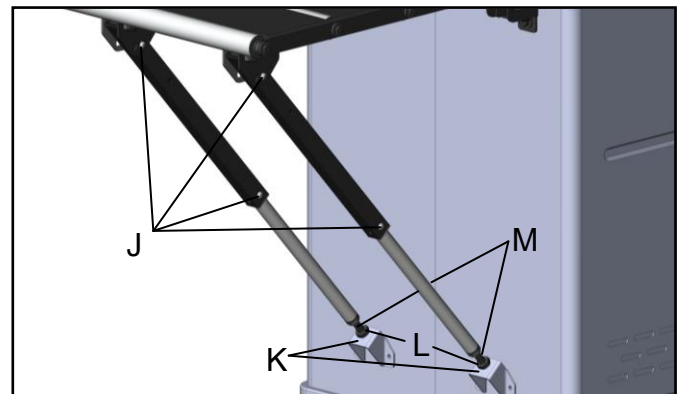

Fig. 5
2. Press the lock pin (I) to release the support leg.
3. Put the support leg into the fix bracket (K) on the stand, Fig. 5.
7. If the extension tables are not leveled , then adjust them applying 17mm open end wrench to loosen nut (L, Fig. 5) and turn the adjustment screw (M) until the extension tables near the main table end just touches the straight edge. Then adjust the leveling of the other end of the extension tables by turning the adjustment screw, located on the extension tables support. Adjust the right and left side of the extension tables in this way, Fig.5.